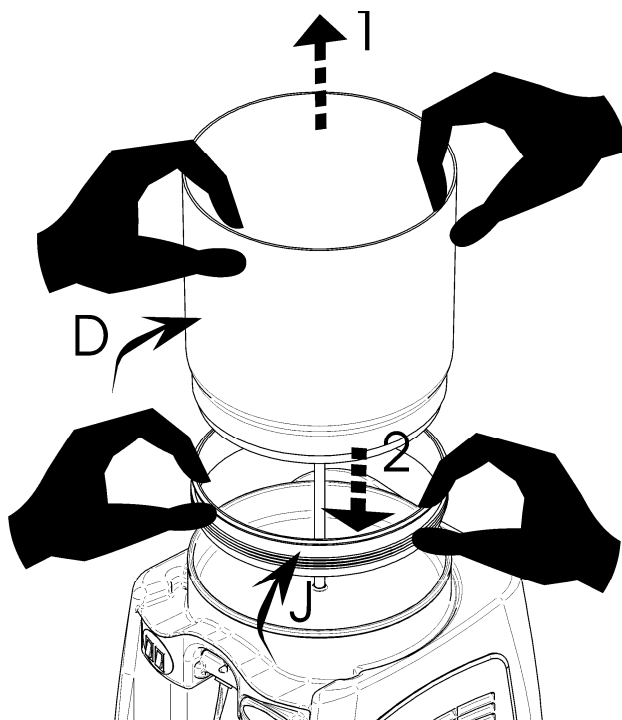

Figure 8
5°. Gently pull out the tank (D) throwing (1) of him up (Fig.8).
6°. Remove the rubber seal (J) from the tank throwing (2) up (Fig.8).